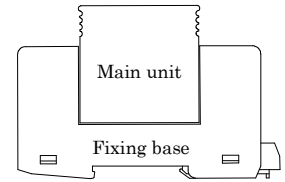

Fig.1 SPD main unit and fixing base
⑤ Do not expose the SPD to adverse environmental conditions such as rain, wind, steam, dust, and salty air.
⑥ Do not expose the SPD to acid, alkali, corrosion gas, solvent, oil, dust, and salt.
⑦ Handle the SPD carefully to prevent mechanical shock (e.g. drop) or vibration, as this may cause cracking of its plastic housing.
- b) When measuring an insulation resistance of the SPD or conducting voltage withstand test, disconnect the SPD main unit from the fixing base. (Ref: Fig.1)